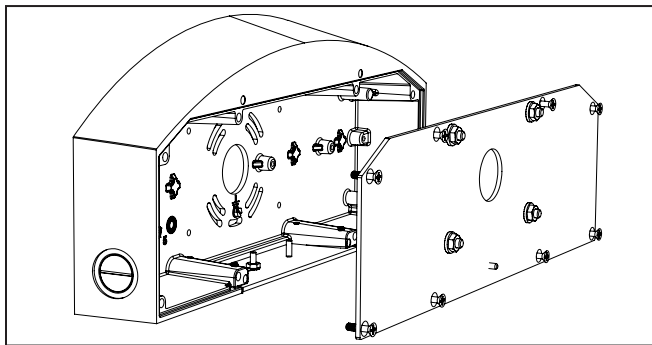

Figure 12.
1. Remove the front cover plate, quantity 8 phillips head screws. Note that the screws should remain captive to the cover plate. (Figure 12)
5. Install the front cover to the BackBox (Figure 12). Torque screws to 20 in-lbs.